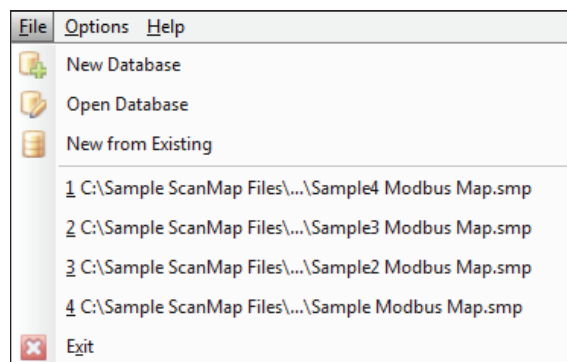
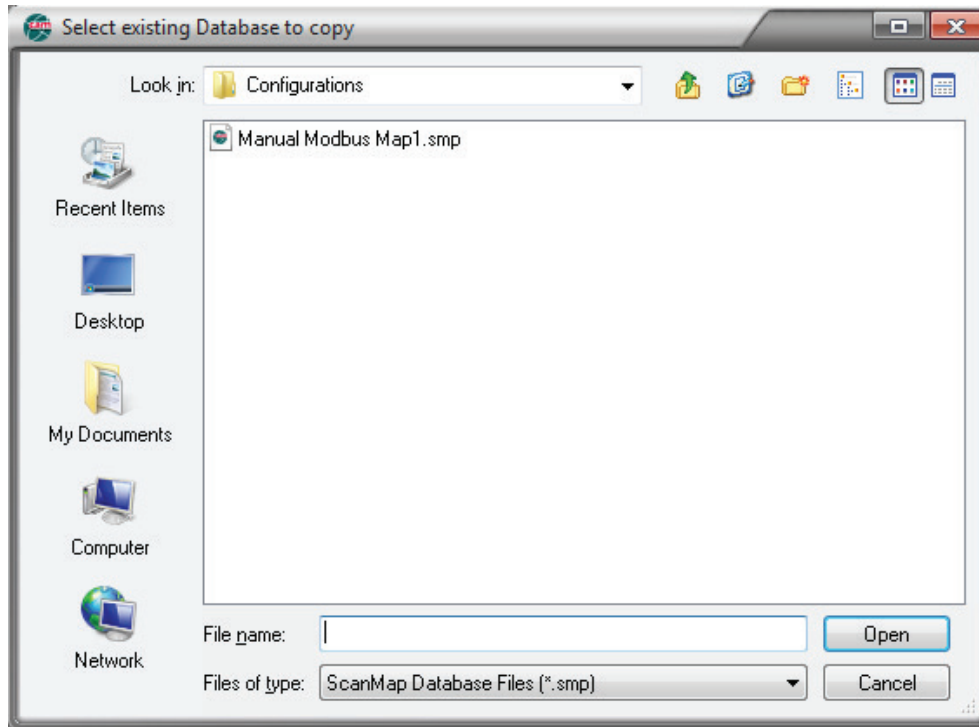

Figure 4.1—File menu
Figure 4.6—Select Existing Database to Copy dialog
The first step in creating a custom Modbus map is to build a custom database. From the *File* menu, ScanMap users can create a new database from scratch (**File>New Database**) or from an existing database (**File>New from Existing**), as shown in Figure 4.1. ScanMap is preloaded with three databases that can be used as-is or modified with user-selected registers and units:
1. From the main screen, choose **File>New from Existing** (Figure 4.1, page 15). The *Select Existing Database to Copy* dialog will appear (Figure 4.6, page 18).
1. Choose **File>Open Database** (Figure 4.1, page 15).